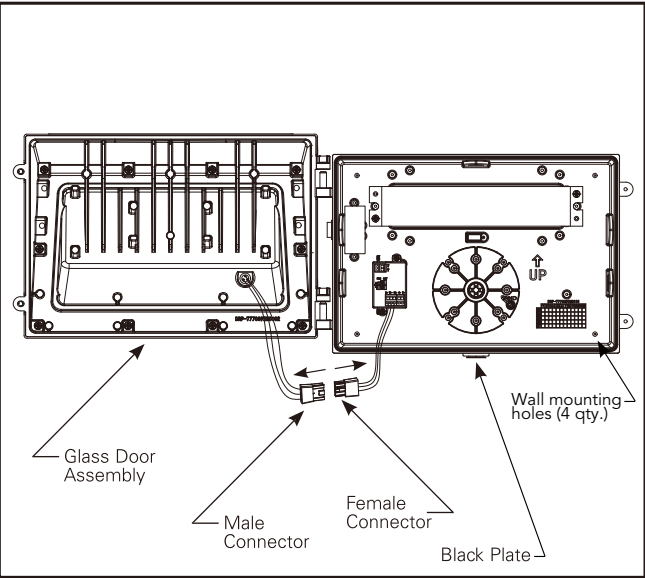

Figure 1.
- 1. Open the fixture by loosening the two Phillips head screws on the side opposite the hinges. Disconnect the male and female connectors. Remove the glass door assembly, and gently set it aside. (Figure 1)